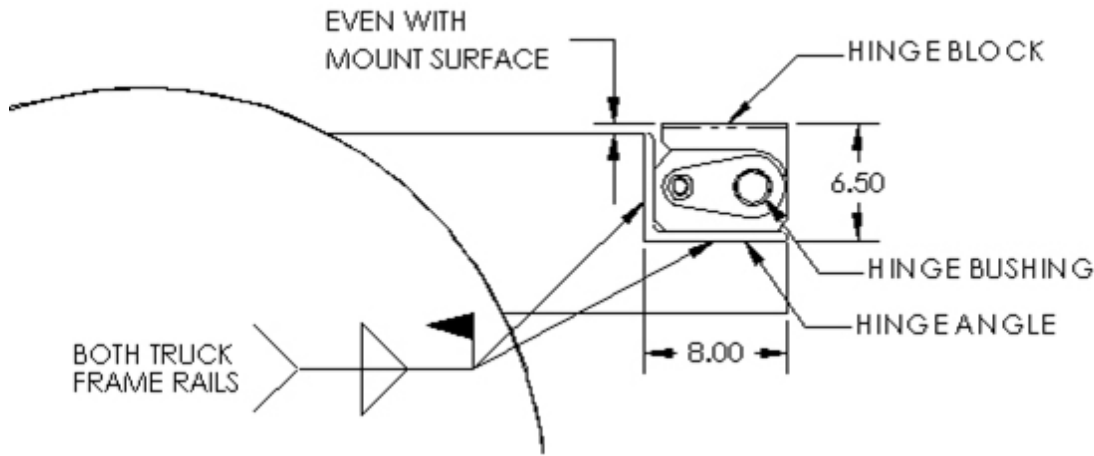
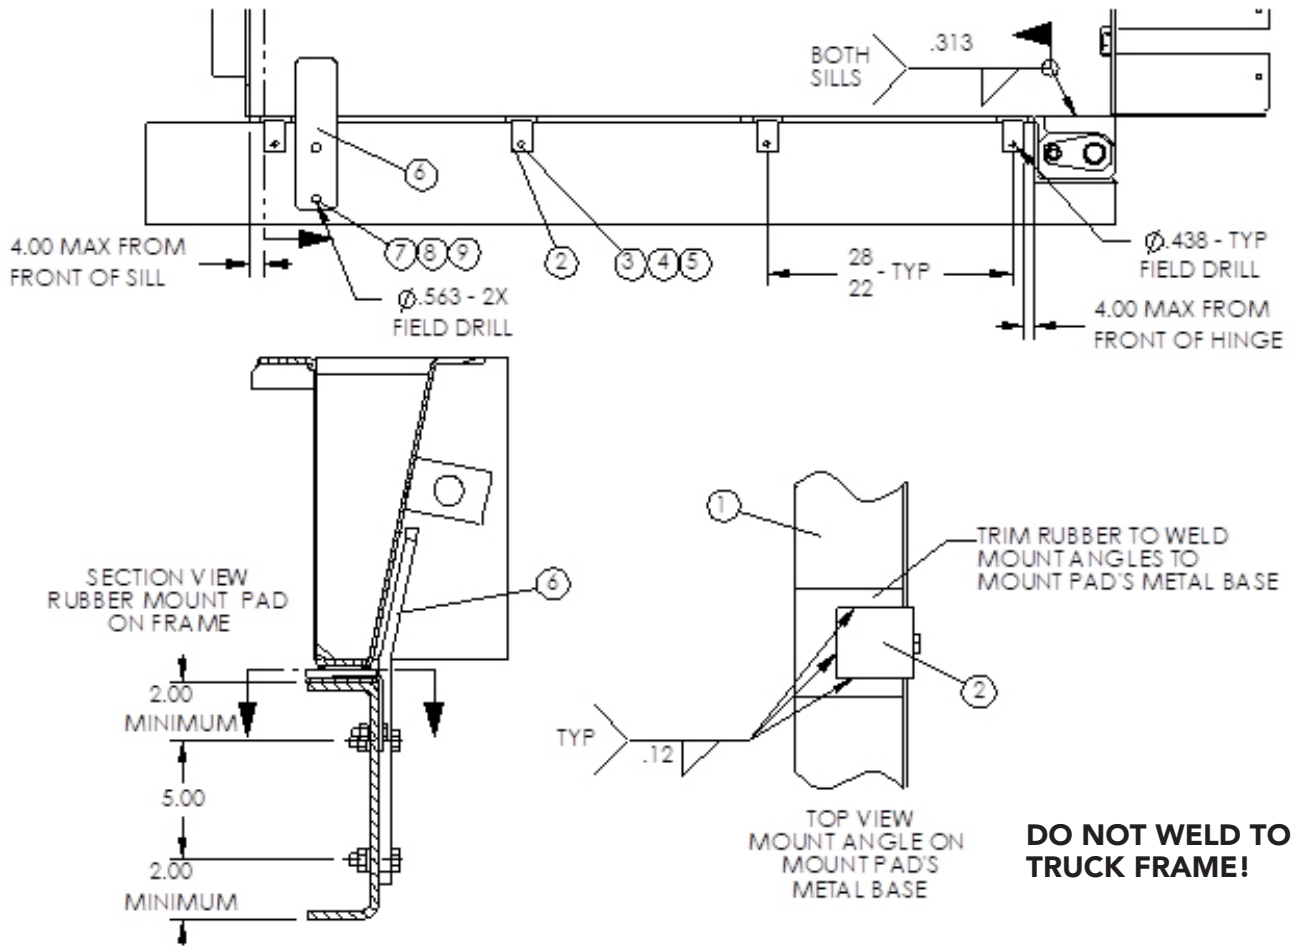

Figure 1 – Hinge Installation
Figure 2 – Mounting
3. Cut truck frame so Hinge Block will be even with the rear and level with the mounting surface as shown in Figure 1.
5. Make sure top of Hinge Block will be level with top of Mount Pads (1, Figure 2) or truck frame if mounting direct to frame.
1. Cover both truck frame rails completely with Mount Pads (1) as shown in Figure 2, from the front of the rear hinge to the front of the XT3 sill, and cut to length as needed. This will provide even contact with the truck frame and reduce high wear points.
- Trim rubber from Mount Pads (1) so Mount Angles (2) can be welded on without damaging rubber.
- Position Mount Angles (2) on Mount Pads (1) as shown in Figure 2 and mark hole locations on truck frame.
7. Weld Mount Angles (2) to metal base of Mount Pads (1) as shown in Figure 2.
9. Solid weld the Hinge to the dump body (Figure 1) and both sides of the truck frame rails (Figure 2) using full fillet welds.
10. Position a Guide (6) against each truck frame rail, as far forward as practical, as shown in Figure 2 and mark hole locations.
12. Install Guides (6) using 1/2" Hardware (7, 8 & 9).